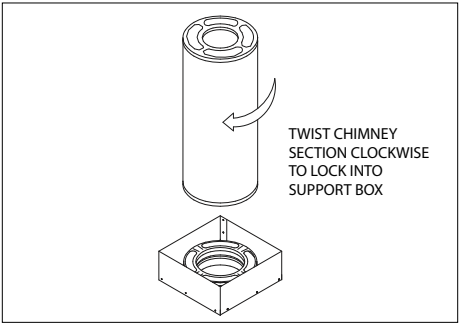

Figure 9
7. Assemble Chimney Sections: Lower the female end of the first Chimney Section in the Support Box (**Fig 9**). It will twist-lock clockwise onto the male end of the Support Box. Turn Pipe Sections firmly clockwise 1/8 of a turn to lock them together. Sheet metal screws are not required, but they may be used to reinforce the connection, if desired. Use only 1/2" (13 mm), or shorter, stainless steel sheet metal screws. Do not penetrate the inner liner of the chimney.